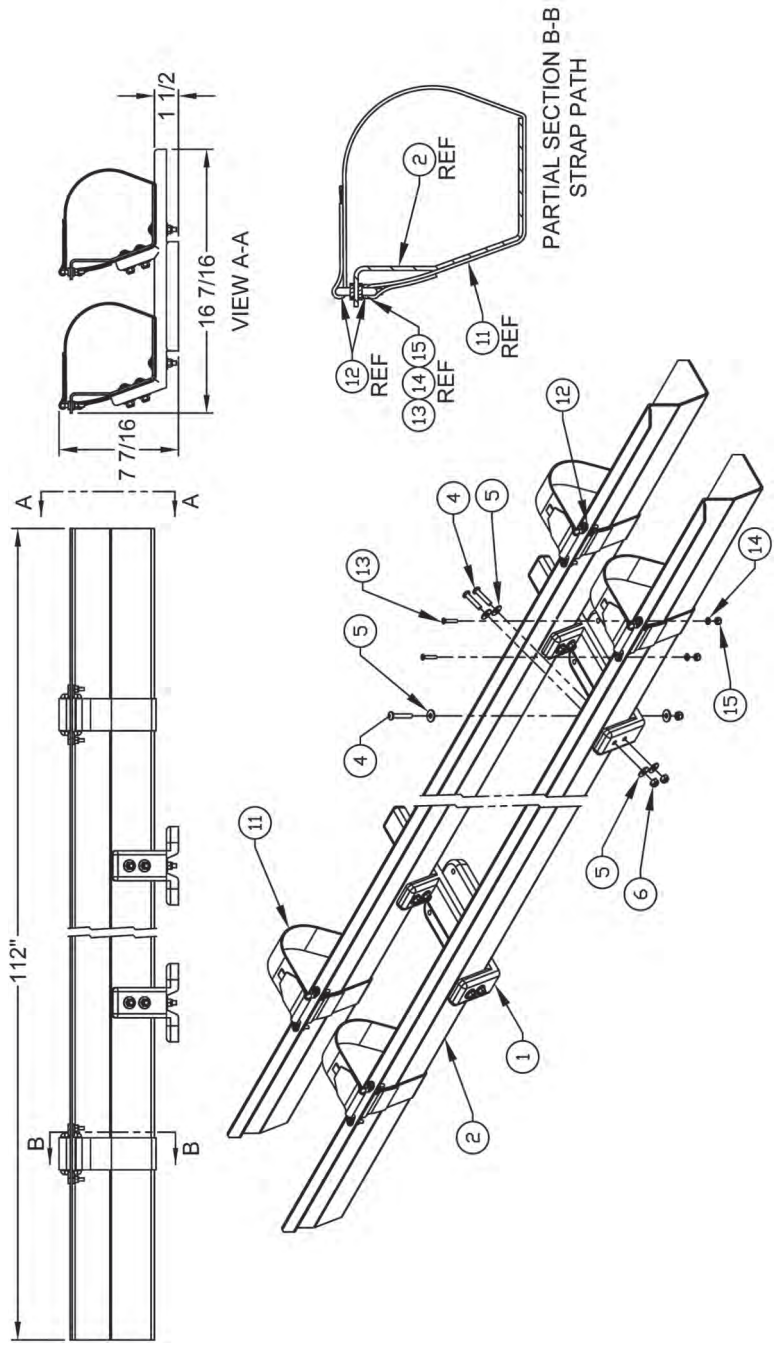

FIGURE 2
- B. HHS-TM-2: Horizontal Hard Suction Mounting Kit with (2) 10' Trays. (Figure 2)